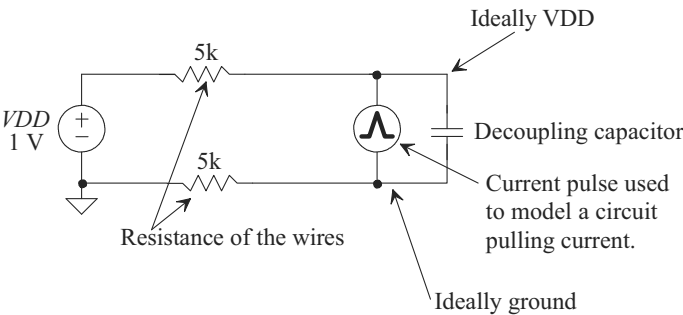

Figure 3.29 Circuit used to show the benefits of a decoupling capacitor.
- 3.10** Consider the schematic seen in Fig. 3.29. This circuit can be used to model ground bounce and VDD droop. Show, using SPICE, that a decoupling capacitor can be used to reduce these effects for various amplitude and duration current pulses.